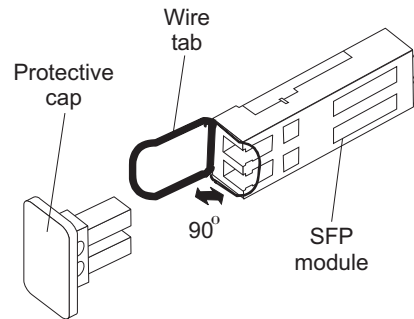

Figure 16. Installing an SFP module into the host port
4. Insert the SFP module into the host port until it clicks into place. See Figure 16 on page 35.